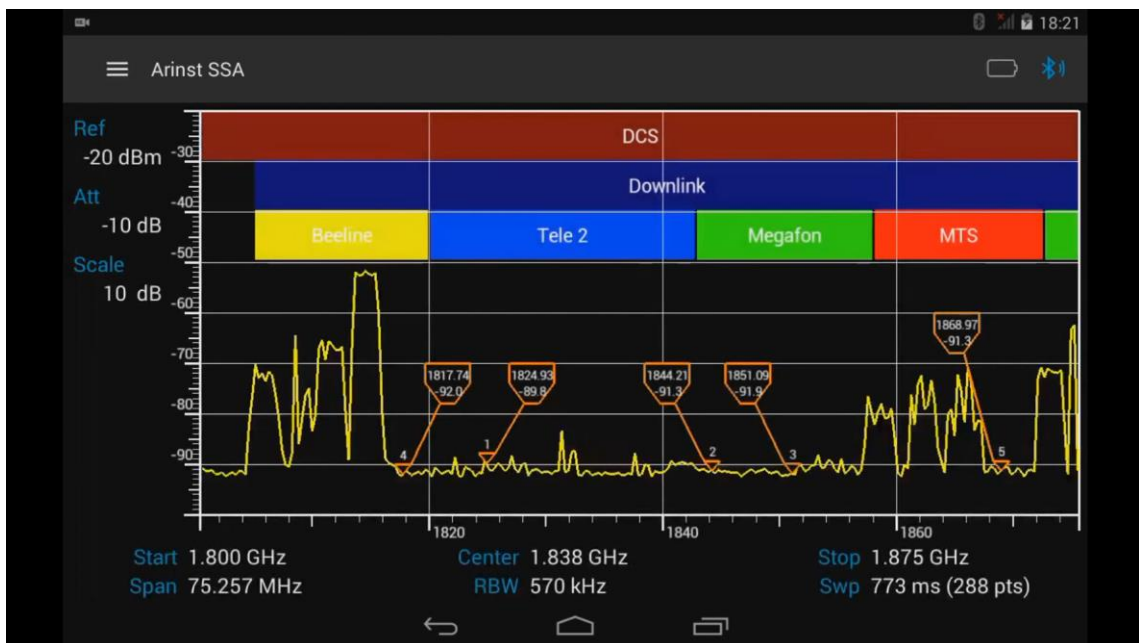
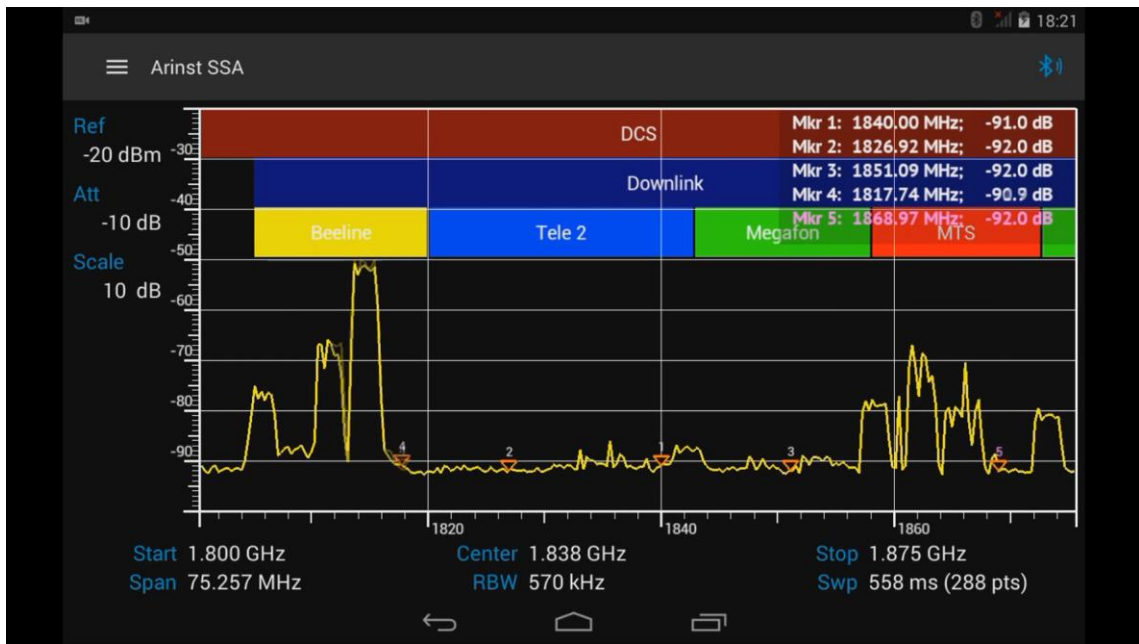

Figure 42 – Displaying the label designation of markers
Figure 43 – Placement of the designation of markers in the form of a table
8.7.6. Depending on the type of designation chosen, the markers will be labeled, which will indicate the frequency and signal level (Figure 42), or information on frequencies and signal values of the set markers will be placed in a table in the upper right corner of the tablet / smartphone screen (Figure 43).